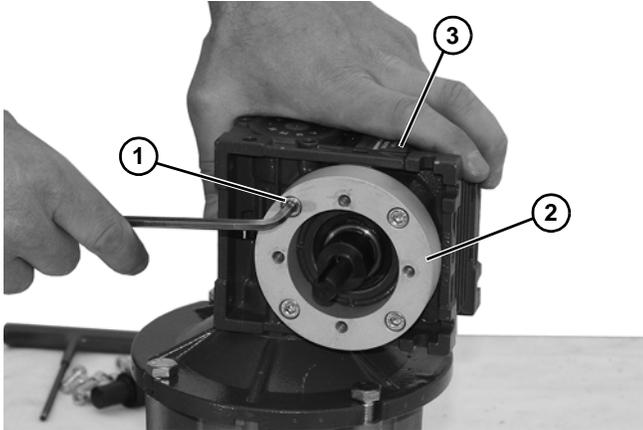

Figure 20
1. Loosen four (4) socket head screws (**Figure 20, item 1**) and detach spacer (**Figure 20, item 2**) from gear reducer (**Figure 20, item 3**).
10. Install spacer (**Figure 20, item 2**) onto gear reducer (**Figure 20, item 3**) with four (4) socket head screws (**Figure 20, item 1**).